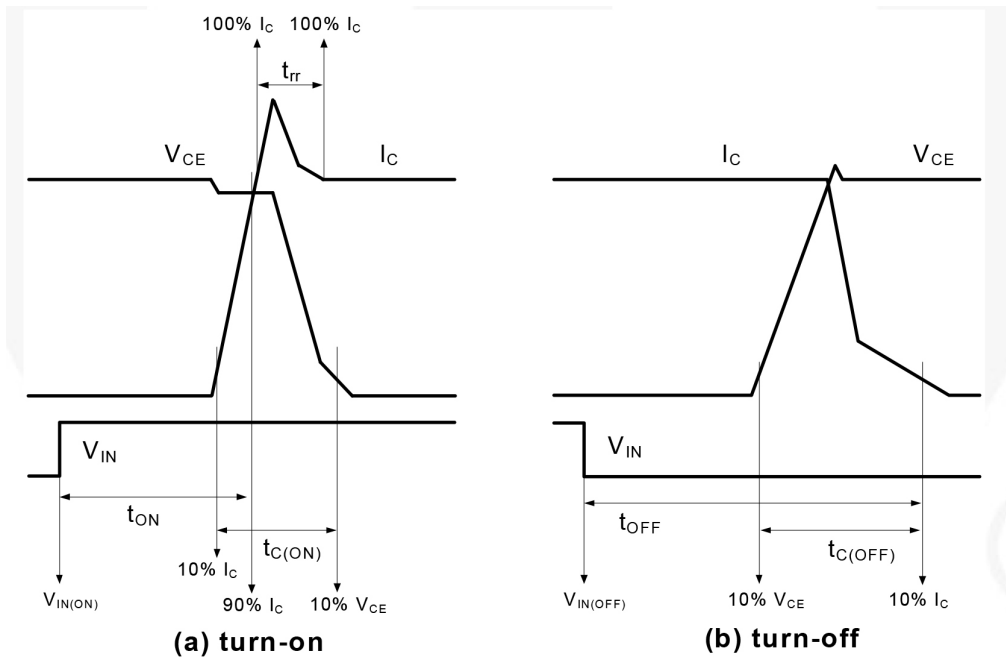

Figure 3. Switching Time Definition
6. t_{ON} and t_{OFF} include the propagation delay of the internal drive IC. $t_{C(ON)}$ and $t_{C(OFF)}$ are the switching times of IGBT under the given gate-driving condition internally. For the detailed information, please see Figure 3.